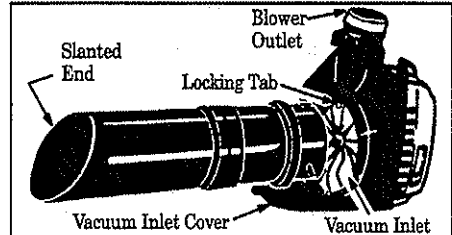

Figure 6
3. Hold open vacuum inlet cover and align the grooves on the upper vacuum tube with the locking tabs inside the vacuum inlet. Figure 6. Insert the upper vacuum into the vacuum inlet; twist the upper vacuum tube clockwise until parts snap together.
4. Assemble the vacuum tubes by aligning the slanted end of the lower vacuum tube with the blower outlet. Figure 6. Push the two tubes together until the lower vacuum tube bottoms out inside the upper vacuum tube [about 3" (7.5 cm)]. Figure 6.
NOTE: Observe that the bottom end of the lower vacuum tube is cut at an angle. Make sure that the slanted end of the vacuum tube is aligned with the blower outlet as shown in Figure 6.